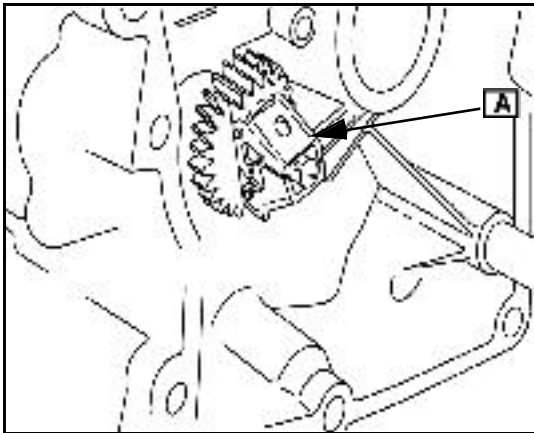

Fig. 30
4. Install governor gear. Ensure that counterweights ([A] Fig. 30) move freely without binding.